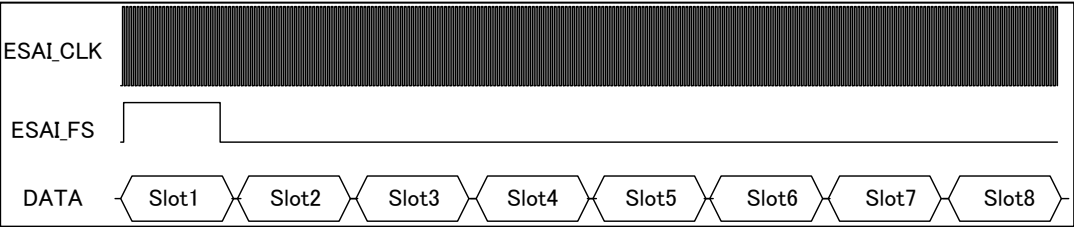

Figure-2 8 slots TDM data
- ESAI is used as 8slot TDM. (Figure-2)